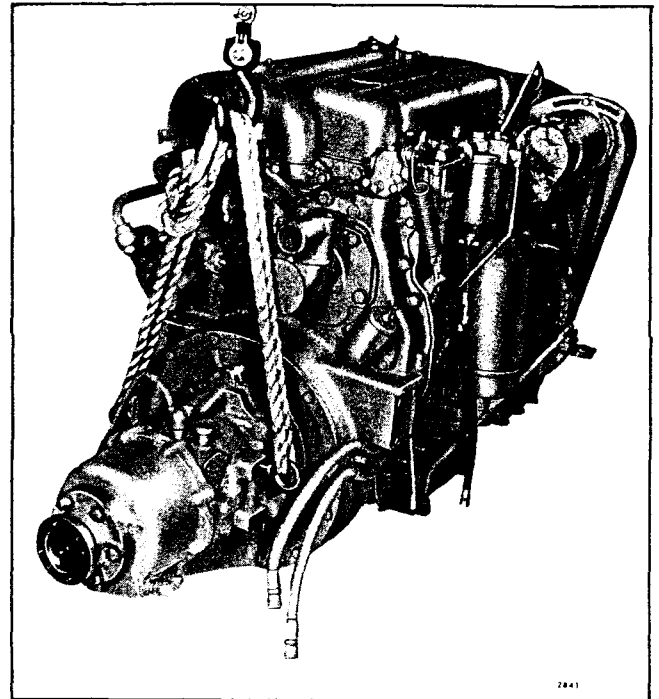

Fig. 9 - Removing Reverse and Reduction Gear Assembly from Engine
5. Install a 7/16" -14 eyebolt in the top bolt hole at each side of the reverse gear housing (Fig. 9).
6. Support the reverse and reduction gear assembly with a rope sling and chain hoist as shown in Fig. 9.